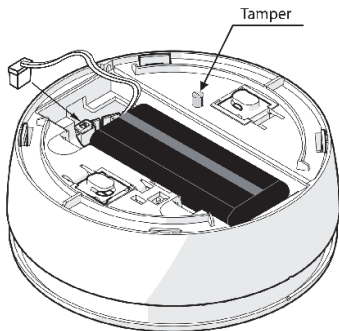

Figure 4
- Open the battery compartment cover and connect the battery cable to the battery connector. When inserting the battery holder into place, make sure the batteries are facing the Sounder's housing (see Figure 4).